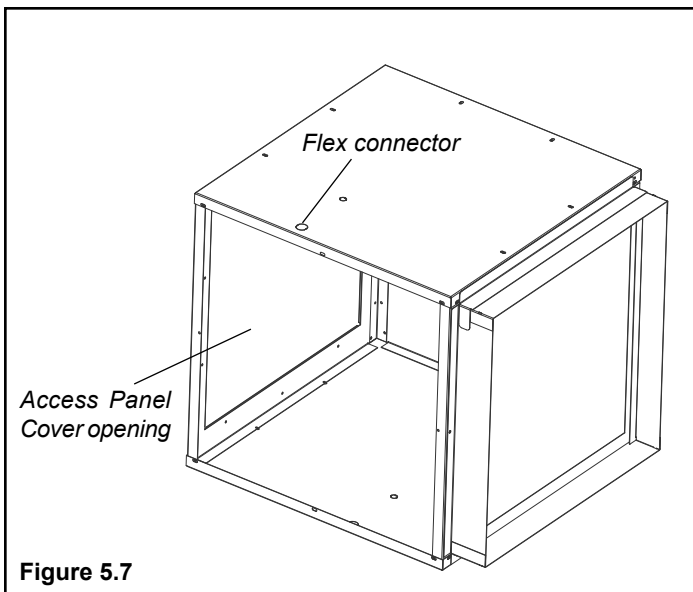

Figure 5.7
6. Pry out the two knockouts in the top of the box and install the flex connector and the switch. See Figure 5.7. **Note:** Make sure that the setscrew on the flex connector is not pointing toward the furnace end of the box when the locknut is fully tightened. The filter box is now ready to install onto the furnace.